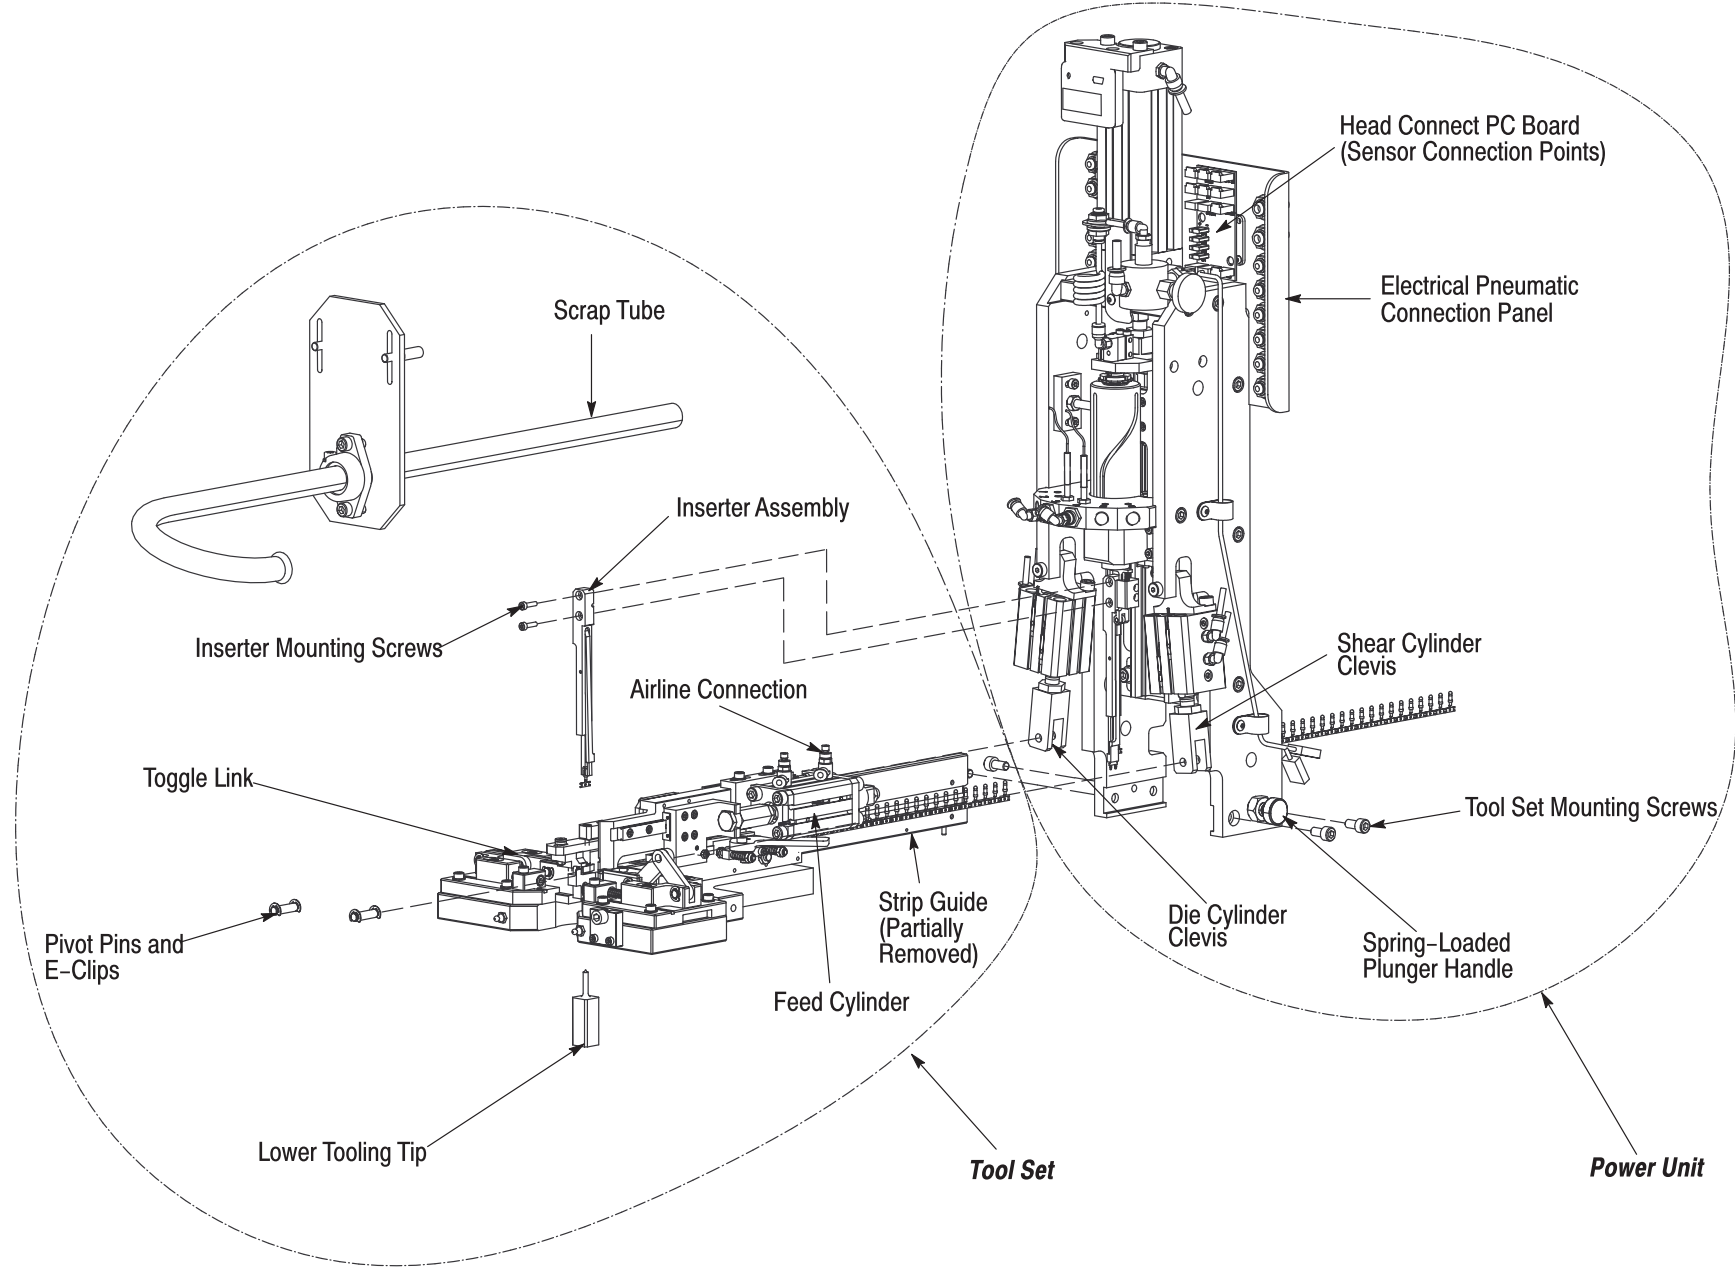

Figure 6
### 3.2. Installing Tool Set onto Power Unit (See Figure 6)
3. Remove the two e-clips and two pivot pins from the center of the toggle links shown in Figure 6. DO NOT remove the other pivot pins.
Remove the tool set from the power unit in the opposite way that it was installed. Refer to Figure 6, and proceed as follows: